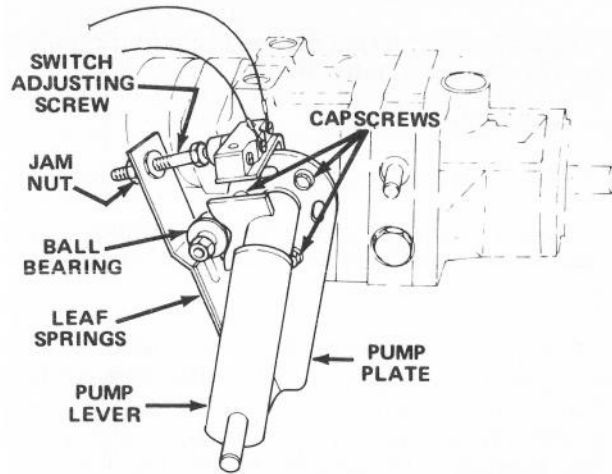

Figure 52
1. Park vehicle on a level surface and turn engine off. Apply the parking brake, tip seat forward and actuate pump lever (Fig. 52) to insure assembly is properly seated and operating freely. Correct any discrepancy.
of pump plate counterclockwise (Fig. 52). By contrast, tap pump plate clockwise if wheel is rotating backward (Fig. 52). When wheel stops rotating, tighten capscrews holding pump plate against side of transmission. Verify the adjustment with throttle in SLOW and FAST position.
- A. Ball bearing is loose or worn out (Fig. 52).
- F. Weak or damaged leaf springs (Fig. 52). Replace.
- 2. Actuate the pump lever (Fig. 52) to insure all parts are operating freely and seated properly.
- 3. Loosen jam nut. Rotate switch adjusting screw (Fig. 52) until there is a gap between head of screw and switch button.